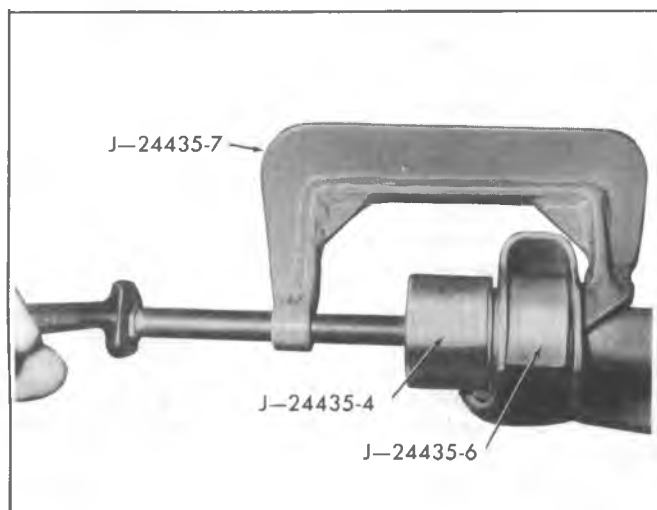

Fig. 3C-26--L.C.A. Rubber Bushing Installation
7. Lower jack SLOWLY to release spring compression (Fig. 3C-24) and gain clearance to remove bushings.
9. Bushings may now be replaced. Install "C" clamps J-24435-7 and receiver J-24435-3 with remover J-24435-2 and spacer J-24435-6 as shown in Figure 3C-25.